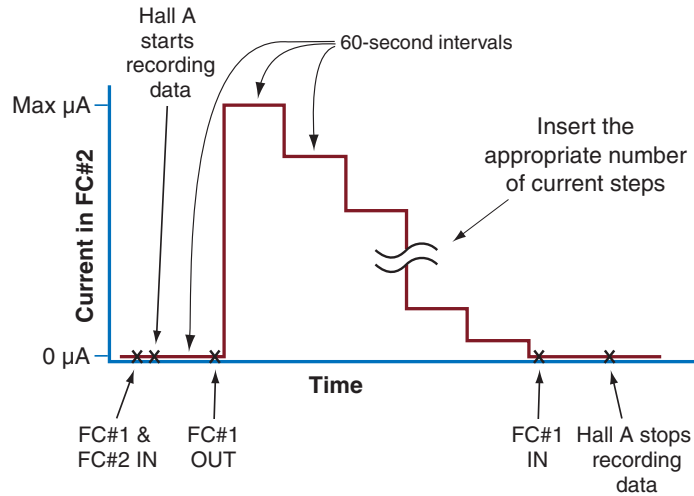
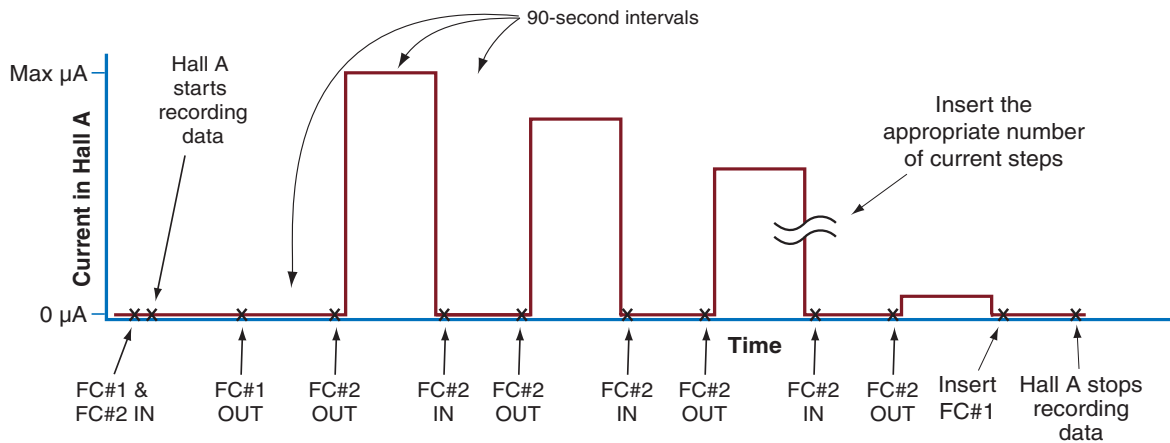

Figure 2-1: Graphical Depiction of the Data-Logging Process
Figure 3-1: Graphical Depiction of the Data-Logging Process
This procedure is to be used by MCC operators to verify the linearity of the Hall A BCMs with respect to Faraday Cup #2 (5 MeV region) across a range of beam currents. This procedure is invasive; i.e., it will interrupt beam delivery to the other halls. Beam is first centered on FC#2 and data is recorded at 60-second intervals for descending test currents with FC#2 in. Beam is then sent to Hall A and data is taken at the same descending test currents for 90-second intervals, beginning with the maximum possible test current (as determined by the Hall Run Coordinator and the Program Deputy) and ending with 0.2 μA beam (refer to Figure 2-1 on page 4 and Figure 3-1 on page 5 for current vs. time plots of the procedure). The data taken will be analyzed “off-line” by Hall A personnel. The setup steps in Section 1.0 are non-invasive and can be performed before turning off beam to the halls.
12. Call the Hall A counting house and ask them to begin their data-logging process. After they inform you that they are logging data, wait 60 seconds and proceed to the following step (refer to Figure 2-1, below, for a graphical depiction of the entire data-logging process).
the following step (refer to Figure 3-1, below, for a graphical depiction of the entire data-logging process).
6. Reinsert FC#2, wait for 90 seconds (while waiting, change the current to the next lowest test current) and then return to Step 5, above. Repeat this for all of the remaining test currents (refer to Figure 3-1).